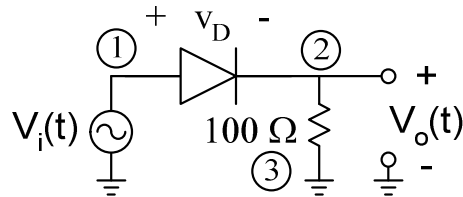

Fig. 6 – Circuit for I-V Characteristic Measurement
The I-V characteristics of a diode can be displayed directly on the oscilloscope using XY mode and the circuit shown in Fig. 6. The voltage across the resistor (which is $R(I_D)$) is used as the Y input and the voltage across the diode v_D is used as the X input. Thus a voltage $100 * I_D$ will be the vertical axis, and v_D will be the horizontal axis. It must be noted that the voltage units of the vertical scale should be divided by 100 to obtain the diode current in amperes.
1. Construct the circuit shown in Fig. 6, using the 1N4006 or 1N4148 diode.
- Is the current flowing in the load resistor in Fig. 6 *bidirectional* or *unidirectional*?
- For Part C, compare the ripple voltages of the following: (1) power supply with $C=100\mu\text{F}$, and (2) power supply with $C=10\mu\text{F}$.